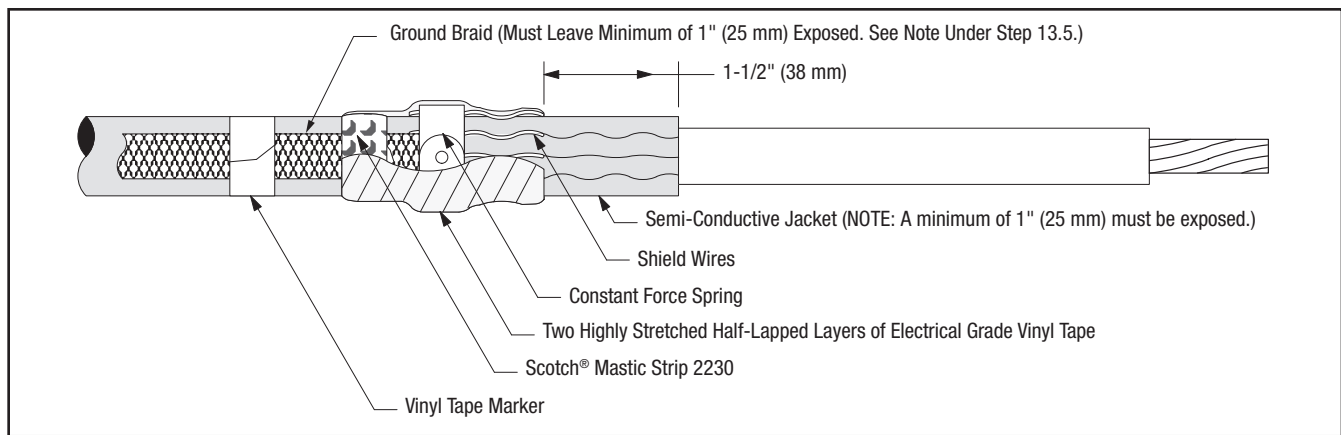

Figure 24
- 13.5 Wrap two highly stretched half-lapped layers of electrical grade vinyl tape around mastic seal, constant force spring and exposed shield wires (Figure 24).